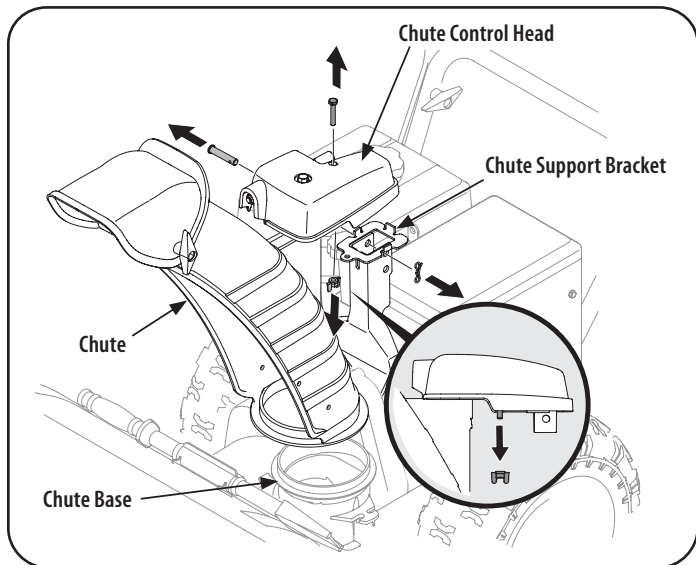

Figure 13
1. Remove wing nut and hex screw from chute control head and clevis pin and cotter pin from chute support bracket. Position chute assembly (forward-facing) over chute base. See Figure 13.